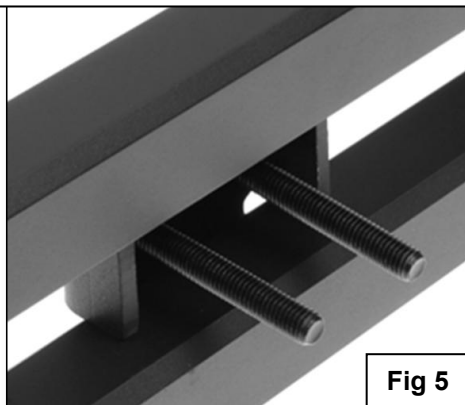

Fig 5
6. Select the Driver Side Bar. Slip (2) M10X1.5-75 Carriage Bolts into each 2-Hole Support Brackets ,and insert the 2-Hole support bracket into the Driver Side Bar .**(Fig 5)**. Carefully position the Bar onto the (4) Mounting Brackets. **IMPORTANT:** Do not slide the Bar on the Brackets or damage to the finish may result. Attach the Driver Side Bar to the Mounting Brackets with (2) M10 Hex Nuts, (2)10mm lock washers and (2)10mm flat washers, **(Fig 6)**. Do not tighten hardware.